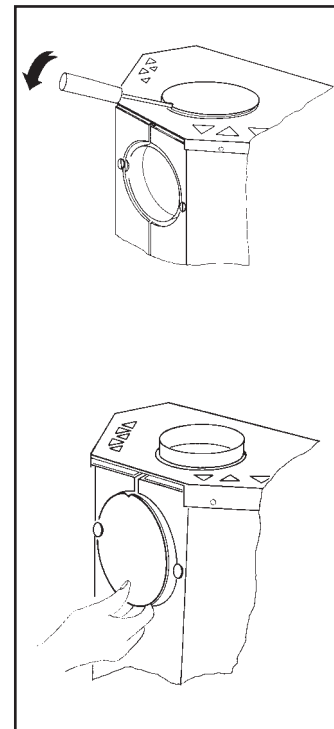

Fig. 2
3. Modification from exit above: cf. figure 2.